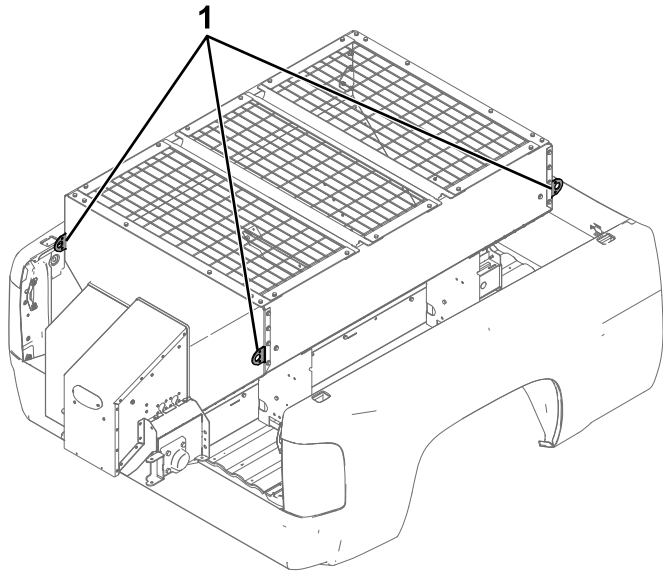

Figure 4
2. Using the lift points (Figure 4), lift the spreader onto the truck bed and set it on the centerline.